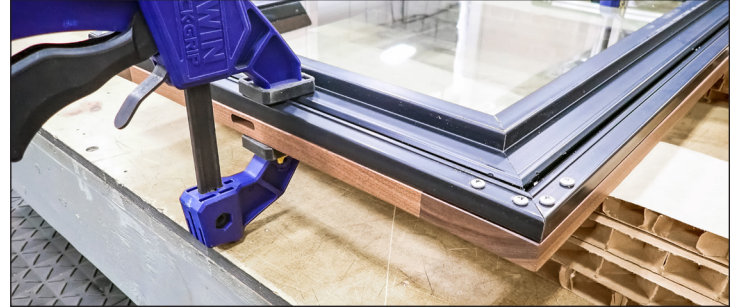

Fig. 6. Be sure the overlay's center slot is positioned at the top of the door.
4. Place the door facedown on the overlay. Then, center the door and overlay. See fig. 6.
- Clamp the door and panel. See fig. 6.